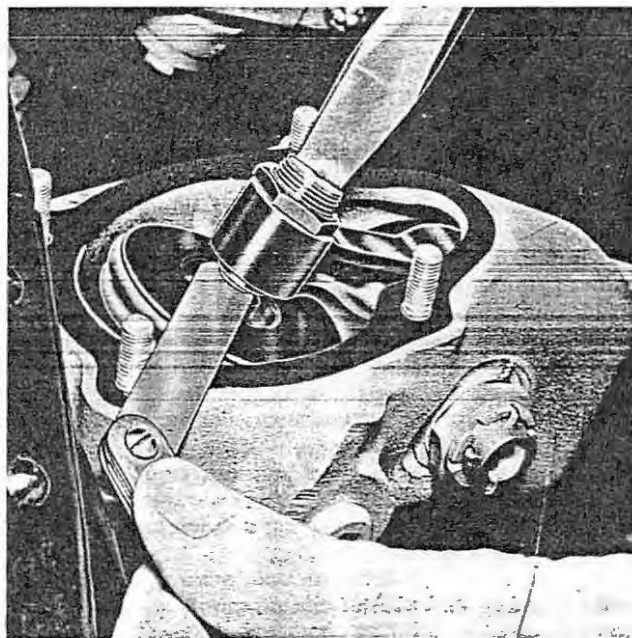

Figure 5-17. Valve Adjustment
- e. Loosen valve adjusting screw locknut and insert a 0.010 feeler gage between the valve stem and the adjusting screw insert. See figure 5-17.